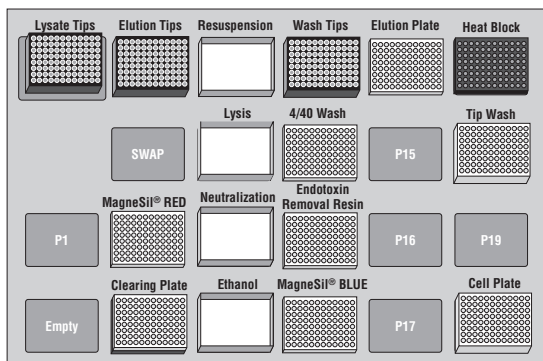

Figure 1. Diagram of the deck layout.
- 1 plate with 50 $\mu$ l/well MagneSil® BLUE (“Mag BLUE” plate, Figure 1)
- 1 plate with 50 $\mu$ l/well MagneSil® RED (“Mag RED” plate, Figure 1)
- 1 plate with 25 $\mu$ l/well Endotoxin Removal Resin (“ET Removal Resin” plate, Figure 1)
- 1 plate with 125 $\mu$ l/well 4/40 Wash Solution (“4/40 wash” plate, Figure 1)
- 1 plate with 100 $\mu$ l/well Nuclease-Free Water (“Elute Plate”, Figure 1)
5. Place the 96-well Greiner plates and reservoirs on the robot deck in the positions indicated in Figure 1 or as suggested in the electronic protocol under Setup.